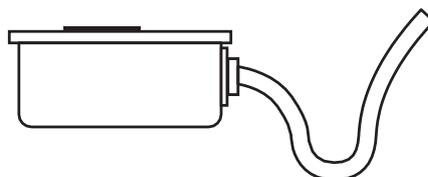

Fig.4 Curve of the Cable
- Make sure the cables reach the terminal box with a curve that prevents water from getting in and running over them. **(Fig.4)**